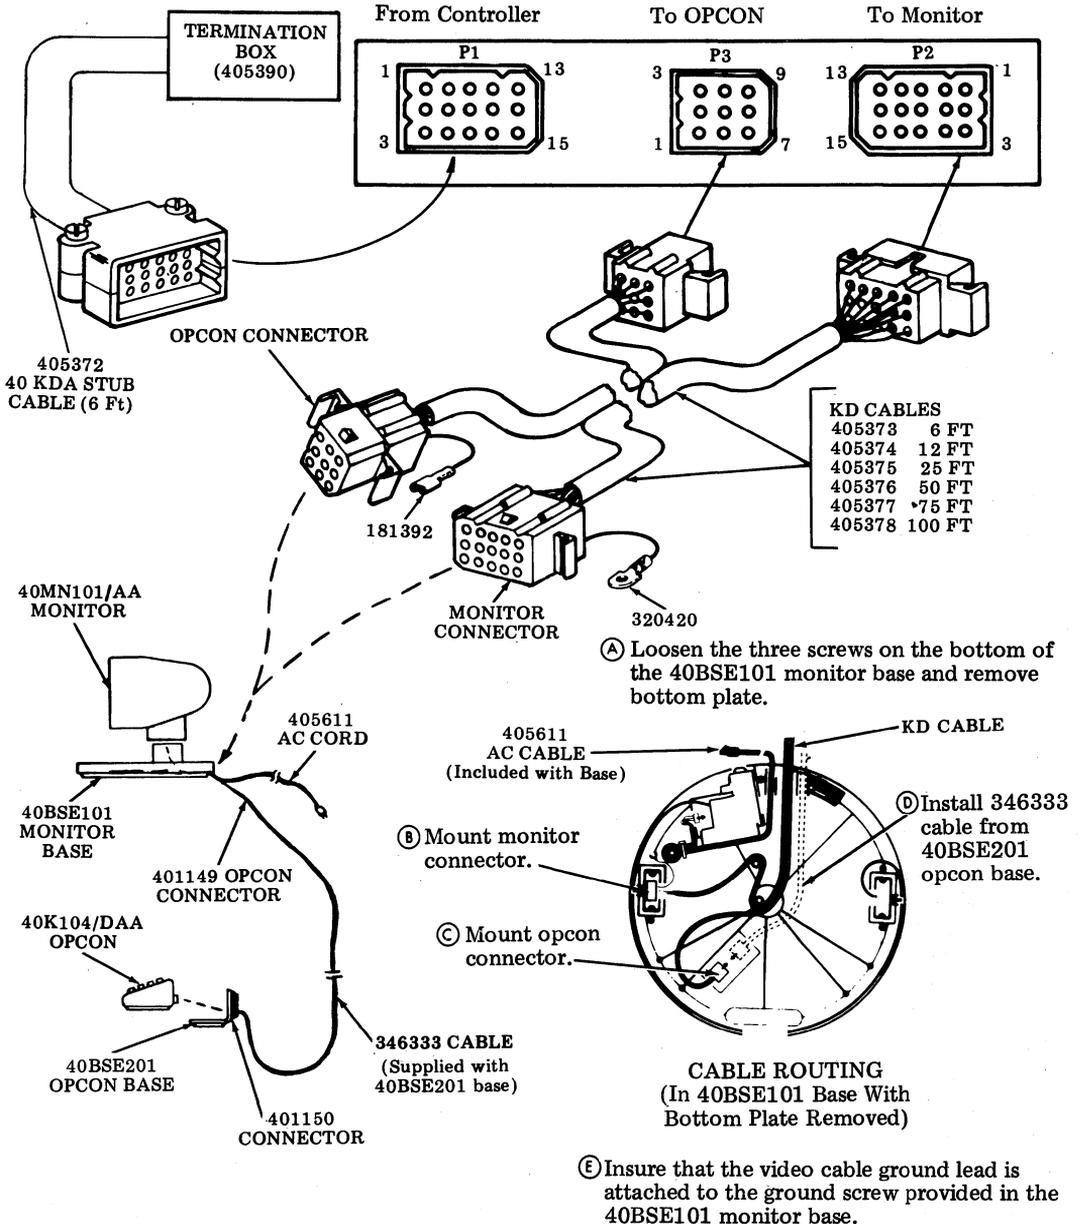

Fig. 14—Example of KDA Connection For Free-Standing KD
4.13 Connection of the KDA to a free-standing KD (with 40BSE101 Base) (Fig. 14); plug the 405372 stub cable ① directly to P1 of the KDA. Plug two connectors of the KDA to KD cable ⑥ to P2 and P3 of the KDA. Follow steps ① through ⑤ for cable mounting at free standing KD.